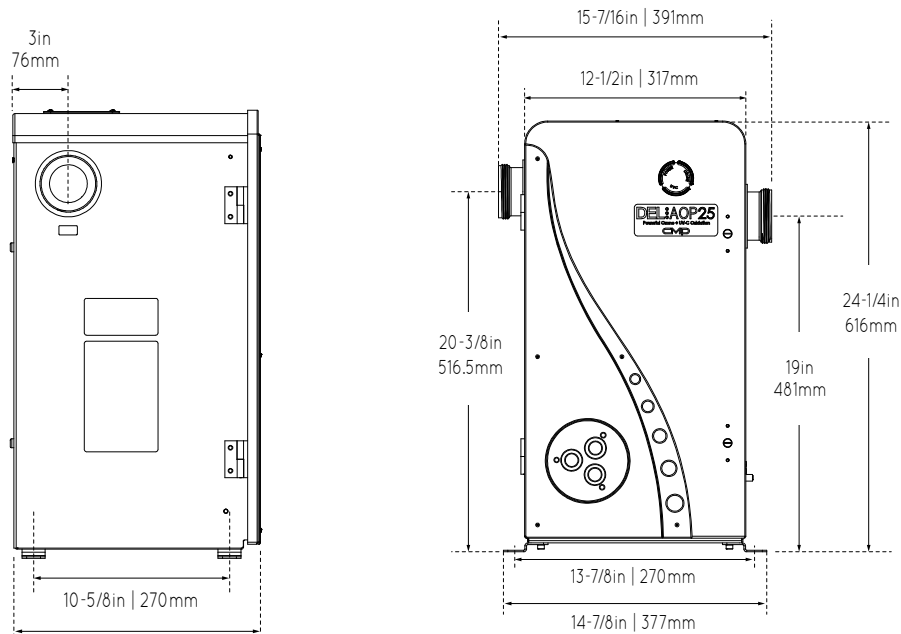
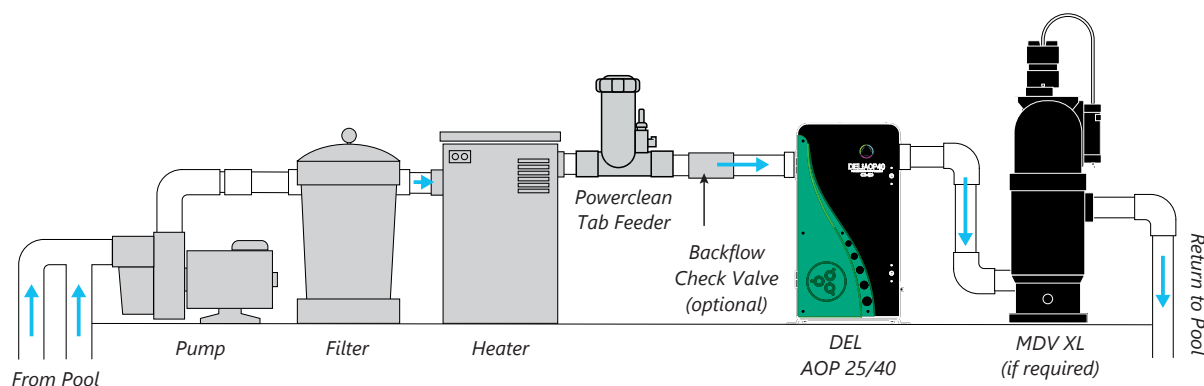

Figure 2: AOP 25 Installation Related Dimensions
Figure 5: DEL AOP Typical Location in Pool Plumbing Loop
- Use the union fittings provided to connect the DEL AOP inlet and outlet to pool plumbing as shown in Figure 5.
- For installation with additional sanitizers and pool cleaners, see Appendix A. Figures 2 & 3 show related dimensions. Figure 5 shows a simplified plumbing diagram.